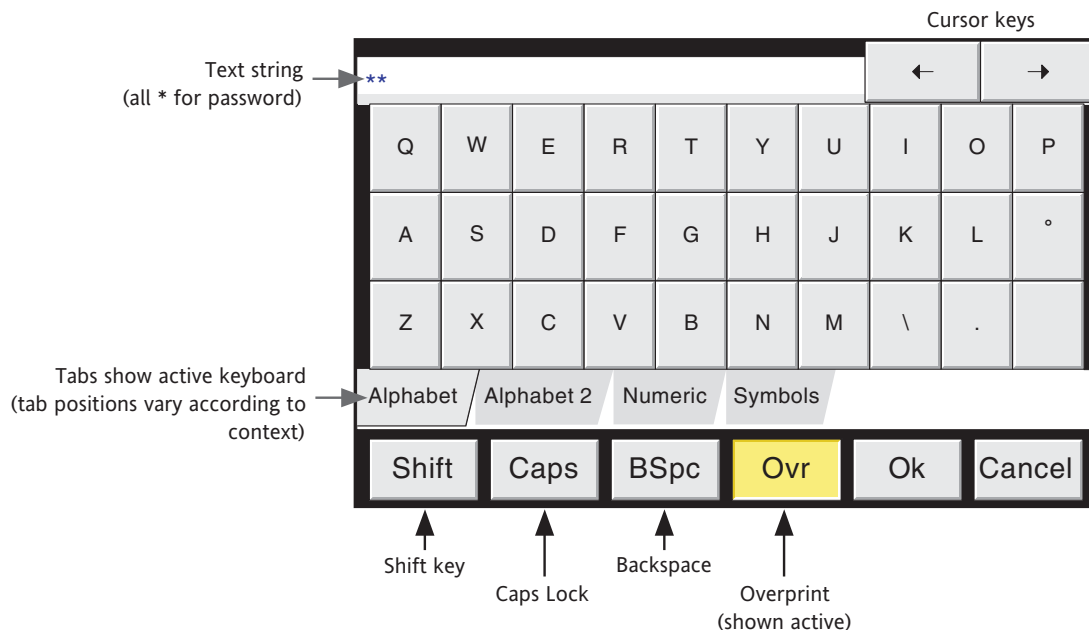

Figure 3.3.1b Alphabet 1 keyboard
- 3 Touch the blank Password area to call the keyboard display (see figure 3.3.1b).
The keyboard which appears when the password area is touched is the same as that which appears when any non-numeric text string entry is required (e.g. channel descriptor). Figures 3.3.1b and 3.3.1c below are an attempt, within the limitations of the illustrating process, to depict the available keyboards and thus the available character set. Actual entry of the text string is by touching the relevant keys.